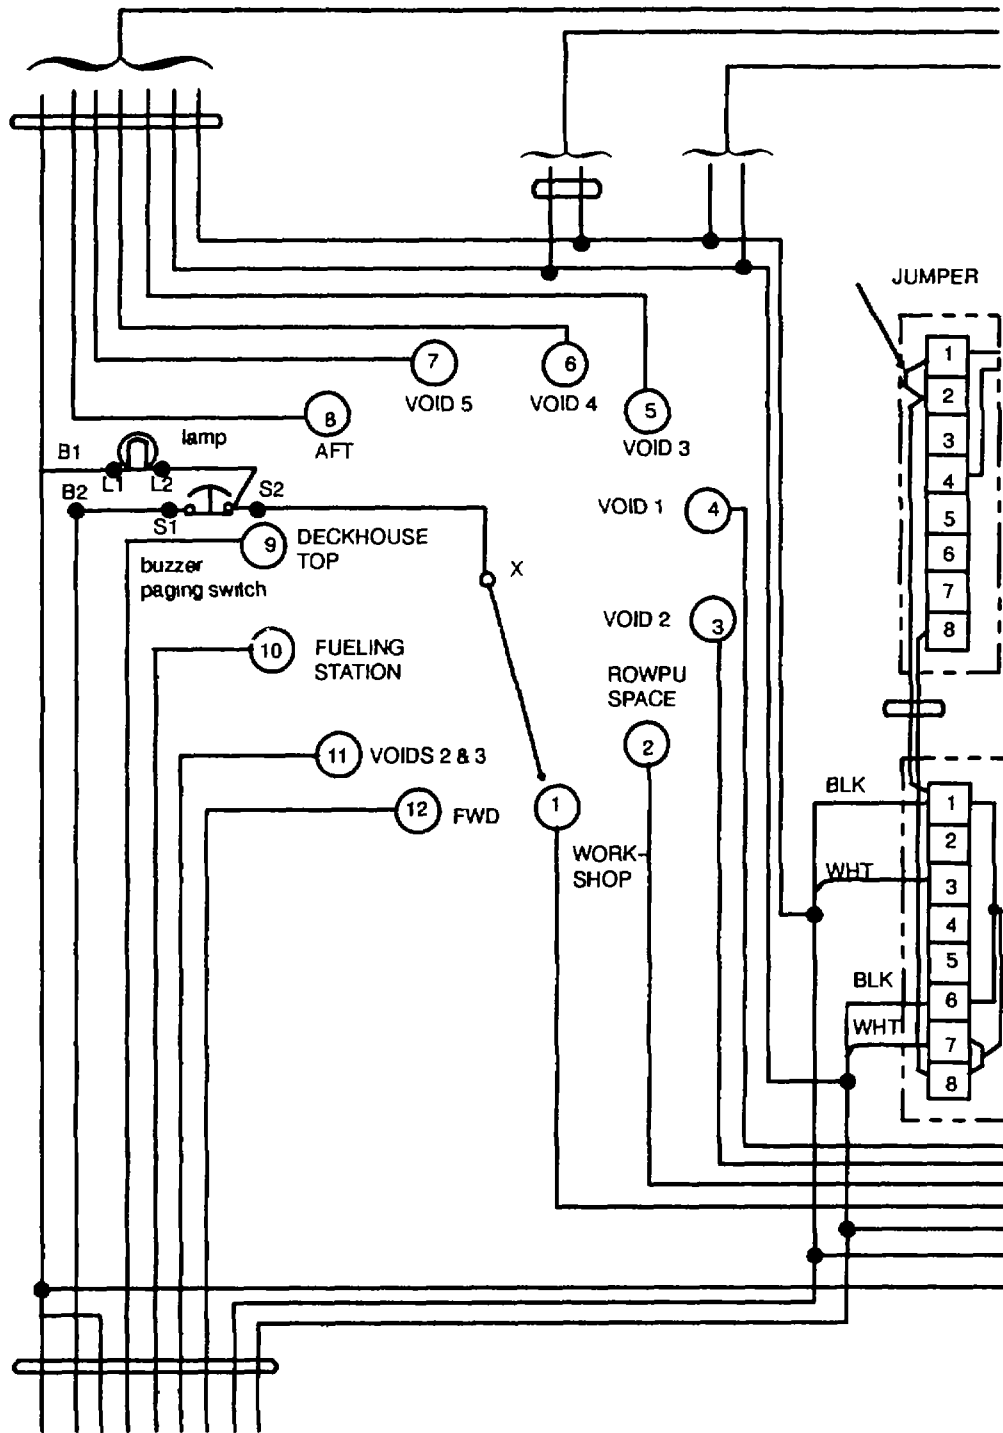

Figure 4-7. Station Selector Switch
a. With circuit breaker 1 OP1 3A7 at the emergency lighting panel closed (ON), check voltage at inputs to paging system between points B1 and B2 for 115 Vac (see Figure 4-7) If voltage is not 115 Vac, go to step b. If voltage is 115 Vac, go to step c.